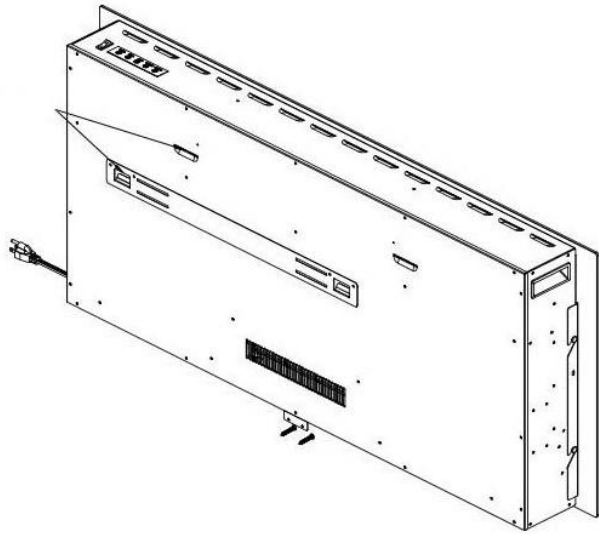

Fig.3
- Gently bring the heater down against the wall, see fig.3